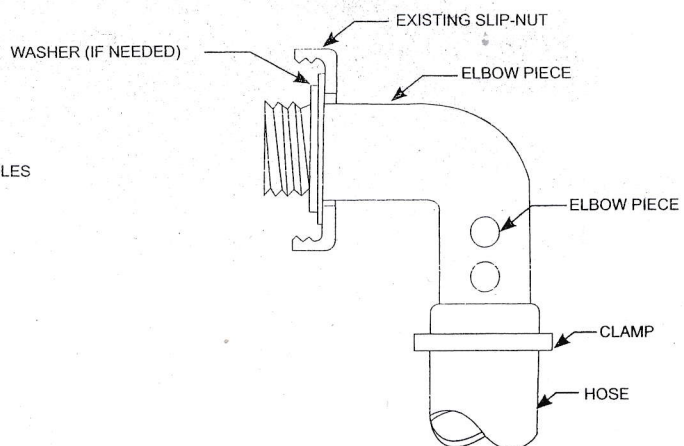

FIGURE 3
3. Refer to Figure 1. Uncoil the hose (3) and remove all twist. Using clamps (15), clamp one end of the hose to the back side of the fountain head (1) and the other end to the inlet adapter from step 2. Cover one set of bleed holes with the hose (Fig. 3). To tighten clamp, grasp "tabs" between thumb and forefinger and squeeze. Tighten securely with a pair of pliers. To open the clamp, grip one "tab" of the clamp with pliers and twist loose.
4. Using the tie wrap (14), LOOSELY attach the anchor (4) to the hose (3). The anchor (4) should be attached to the hose (3) at a point as the water plus approximately two feet. You will have to estimate what the water depth is where you want the fountain and add two feet. **CAUTION: DO NOT CONSTRICT THE HOSE BY TIGHTENING THE TIE WRAP (14) TOO TIGHT.**